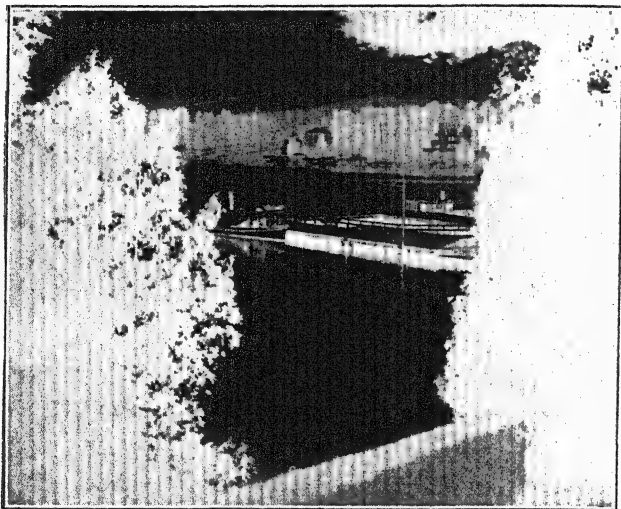

FIG. 332. — A negative plate.
**570. The Principles Involved in Photography.** The main steps in the chemistry of photography consist: (1) In preparing the negative; (2) In making the print. In the preparation of the negative there are three important operations: (a) *the exposure*; (b) *developing*; (c) *fixing*. The plate used for making the negative is prepared by covering a glass plate or celluloid film with gelatine containing silver bromide in suspension. This plate is *exposed* to the light just long enough to start the reduction of the silver bromide. It is then treated in a dark room with a *developer*, which consists of rather mild reducing agents, such as hydroquinone or pyrogallol. The developer cannot start the reduction of the *unchanged* silver salt, but it can continue the reduction begun by the action of the light. After the developing process has proceeded far enough, the plate or film is then put into a strong solution of sodium thiosulfate, commonly known as *hypo*. This solution dissolves the unchanged silver salt so the plate will not darken when again exposed to the light. The "hypo" thus serves as a *fixer*. The more intense the light, the more rapidly the reduction occurs. White reflects more light than colored objects; hence white objects make the plate very dark and *vice versa*. For these reasons the plate is now called a *negative*. (See Fig. 332.)